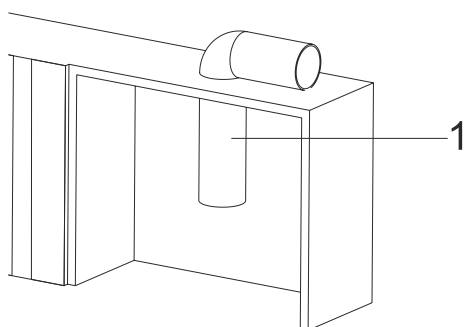

Fig. 11
2. ➔ Bring the air exhaust pipe to the cabin in which the appliance will be mounted on (Fig. 11).